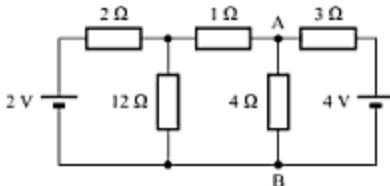

Fig. 4.37
- Determine the current through  $4\text{-}\Omega$  resistor (from A to B) in the circuit shown in Fig. 4.37, using superposition theorem.